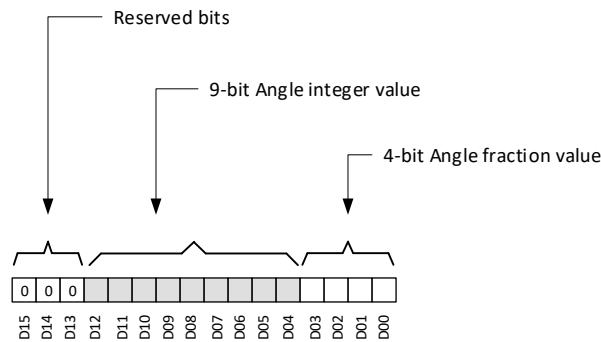

Figure 6-17. Angle Data Definition
The TMAG5273 calculates the angle from a pair of magnetic axes based off the ANGLE_EN register bits setting. Figure 6-17 shows the angle information stored in the ANGLE_RESULT_MSB and ANGLE_RESULT_LSB registers. Bits D04-D12 store angle integer value from 0 to 360 degree. Bits D00-D03 store fractional angle value. The 3-MSB bits are always populated as b000. The angle can be calculated using Equation 14.
- D_i is the data bit as shown in Figure 6-17.